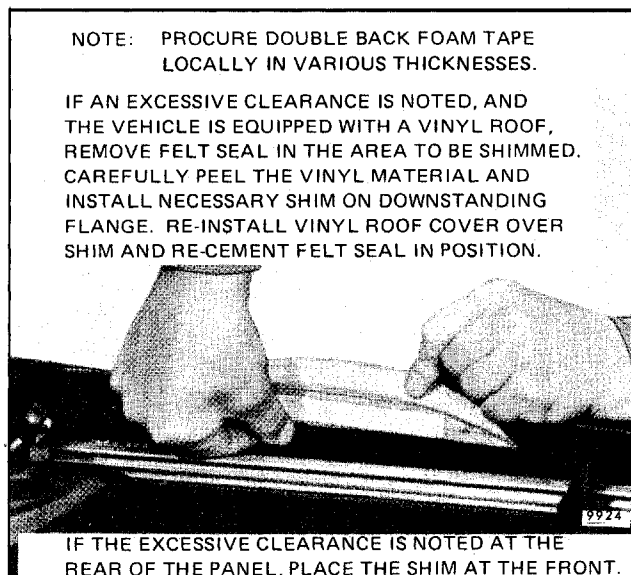

Fig. 8-85-Shimming an Excessive Gap for Cars **WITH** Full Fabric Roof Cover
- b. Peel up the fabric roof material and install required thickness of double backed foam tape on the sheet metal to shim the gap (Fig. 8-85).